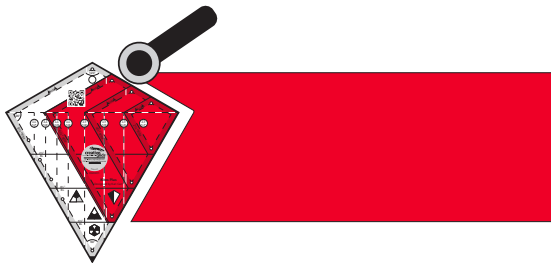

Fig. 2
2. Flip the fabric over. Match the cut edge of the fabric with the left side of the desired kite size - in this case 6½". Cut along the right side to create the kite shape. Fig. 2